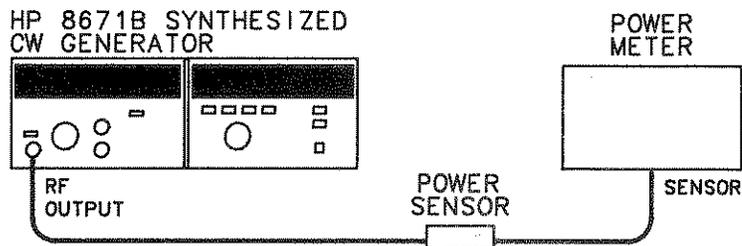

Figure 4-5. Output Level, High Level Accuracy and Flatness Test Setup
2. Connect the power sensor to the RF OUTPUT connector of the CW Generator as shown in Figure 4-5.